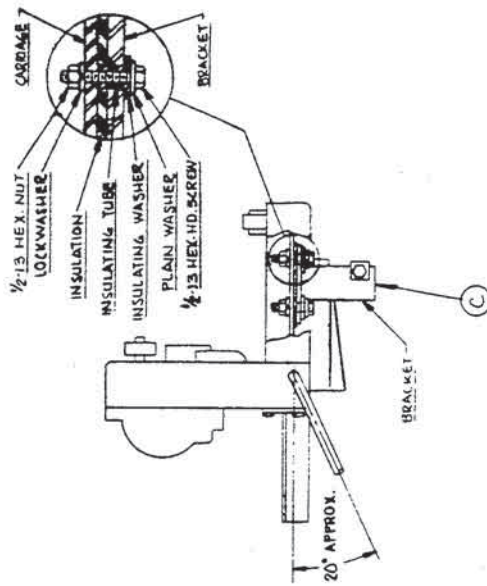

FIG. 3
- Install the head mounting bracket (C), which is supplied with the wire feeder, to the head lift plate per Fig. 3 using the hardware and insulation supplied. The head mount is to be electrically isolated from the carriage frame.